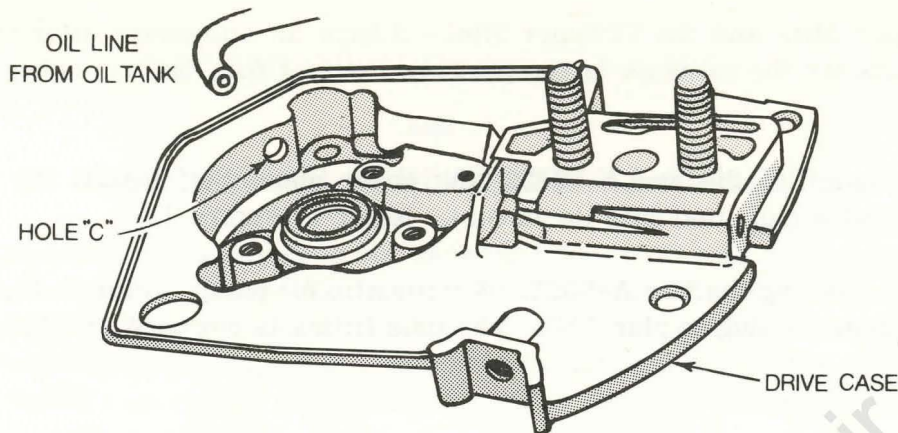

Figure 4
Drivecase # A-69807-A (Dual pick up system) does have a connecting hole between the same two holes. Also it has an extra hole for the second oil line in the back rim (Hole "C"- fig. 4 - Instruction Sheet # 24883) included as an attachment.
2. When assembling the tank to the saw, put the oil line through hole "C", (figure 4) in the rim of the drive case.
2. Replace the existing drive case with an A-69807 drive case. An A-69807 drive case can be identified quickly by noting whether there is a hole for the automatic pump oil supply line (fig. 4, hole "C"). If the hole is present, the drive case has been cross-drilled so that the manual pump output will go to the chain directly rather than first through the automatic pump.